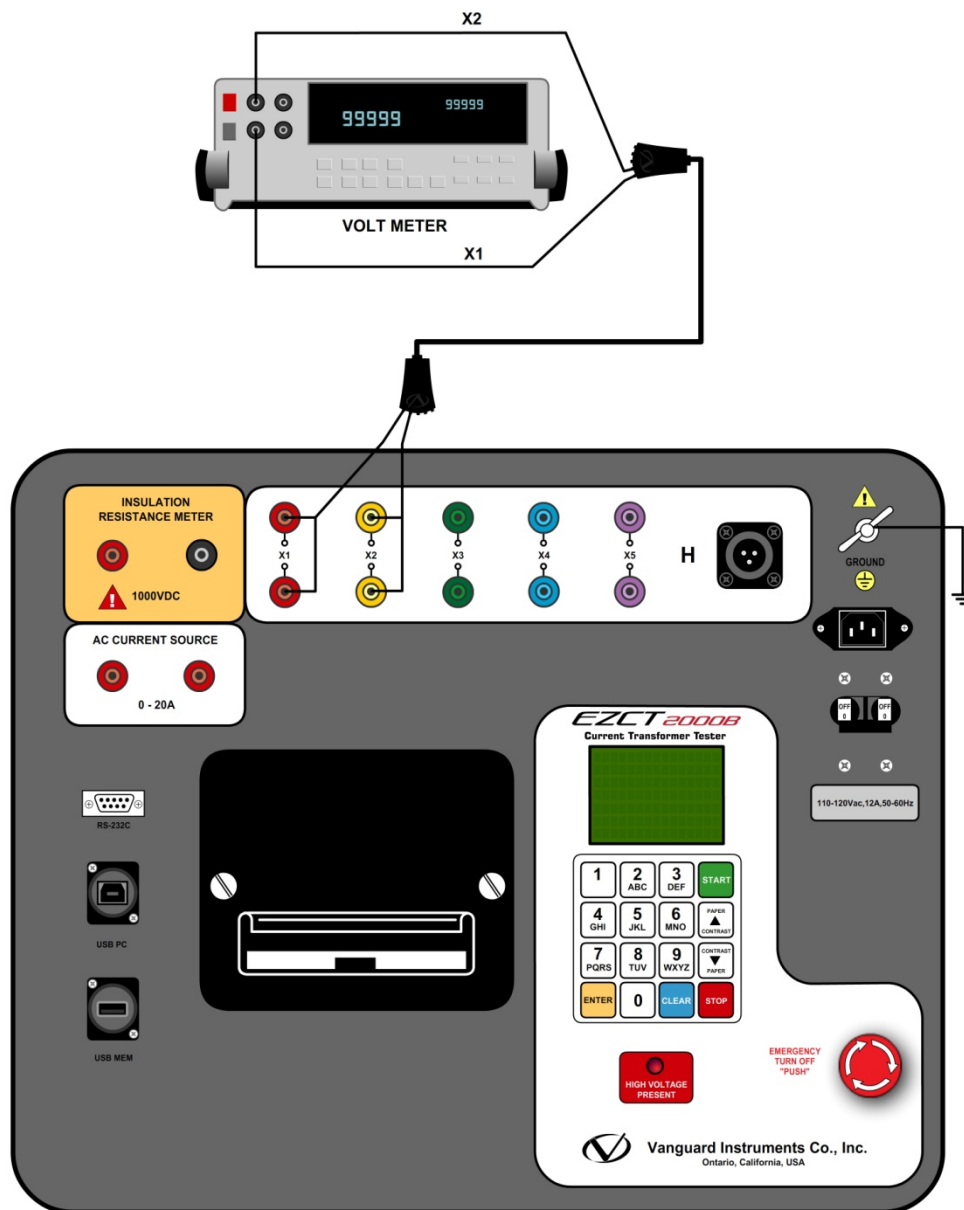

Figure 21. EZCT-2000B V_x Verification Test Connections
- Connect the X cables to an RMS volt meter as shown in Figure 21.